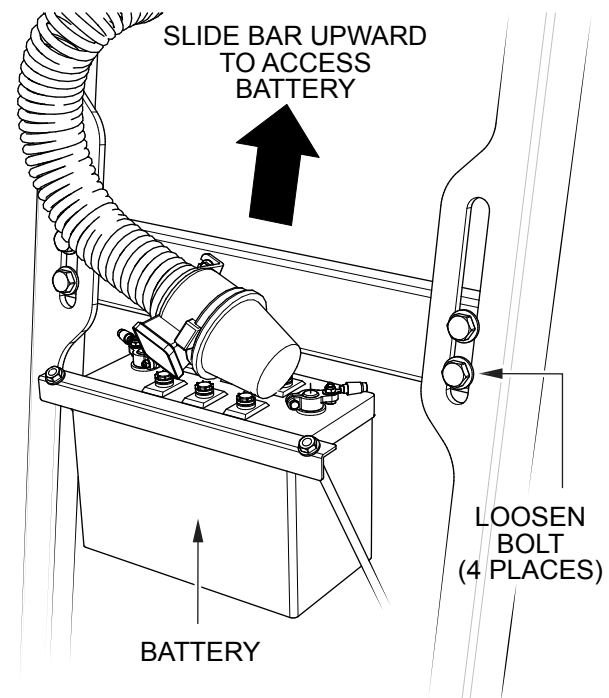

Figure 31. Raising the Battery
2. Loosen the two bolts on each side of the bar connecting the battery to the side rails (Figure 31).